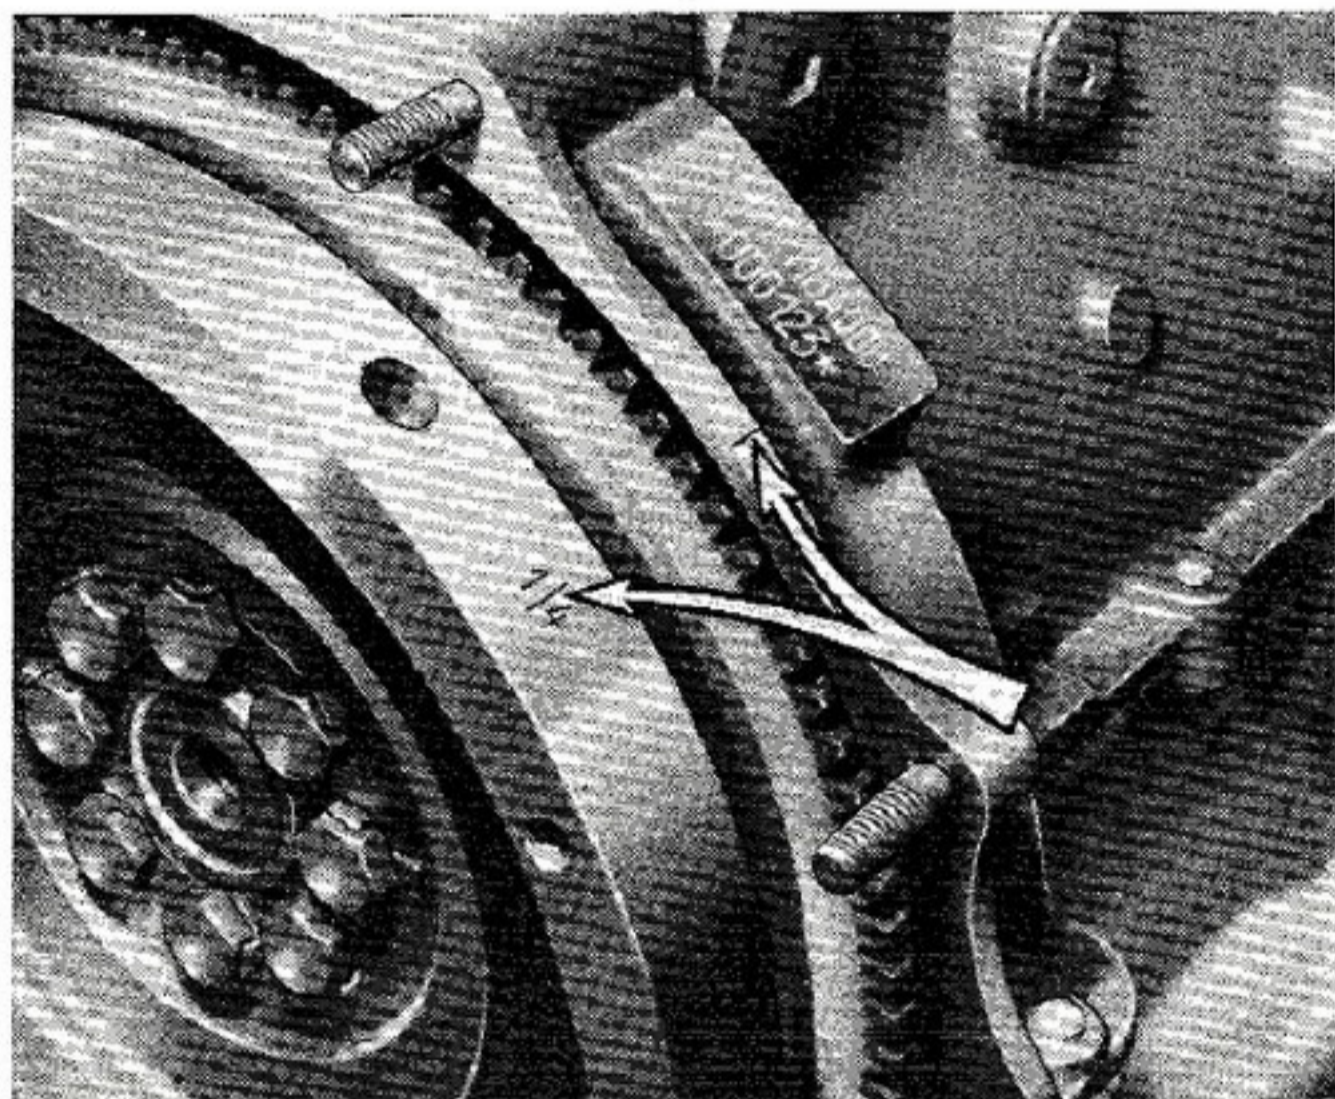
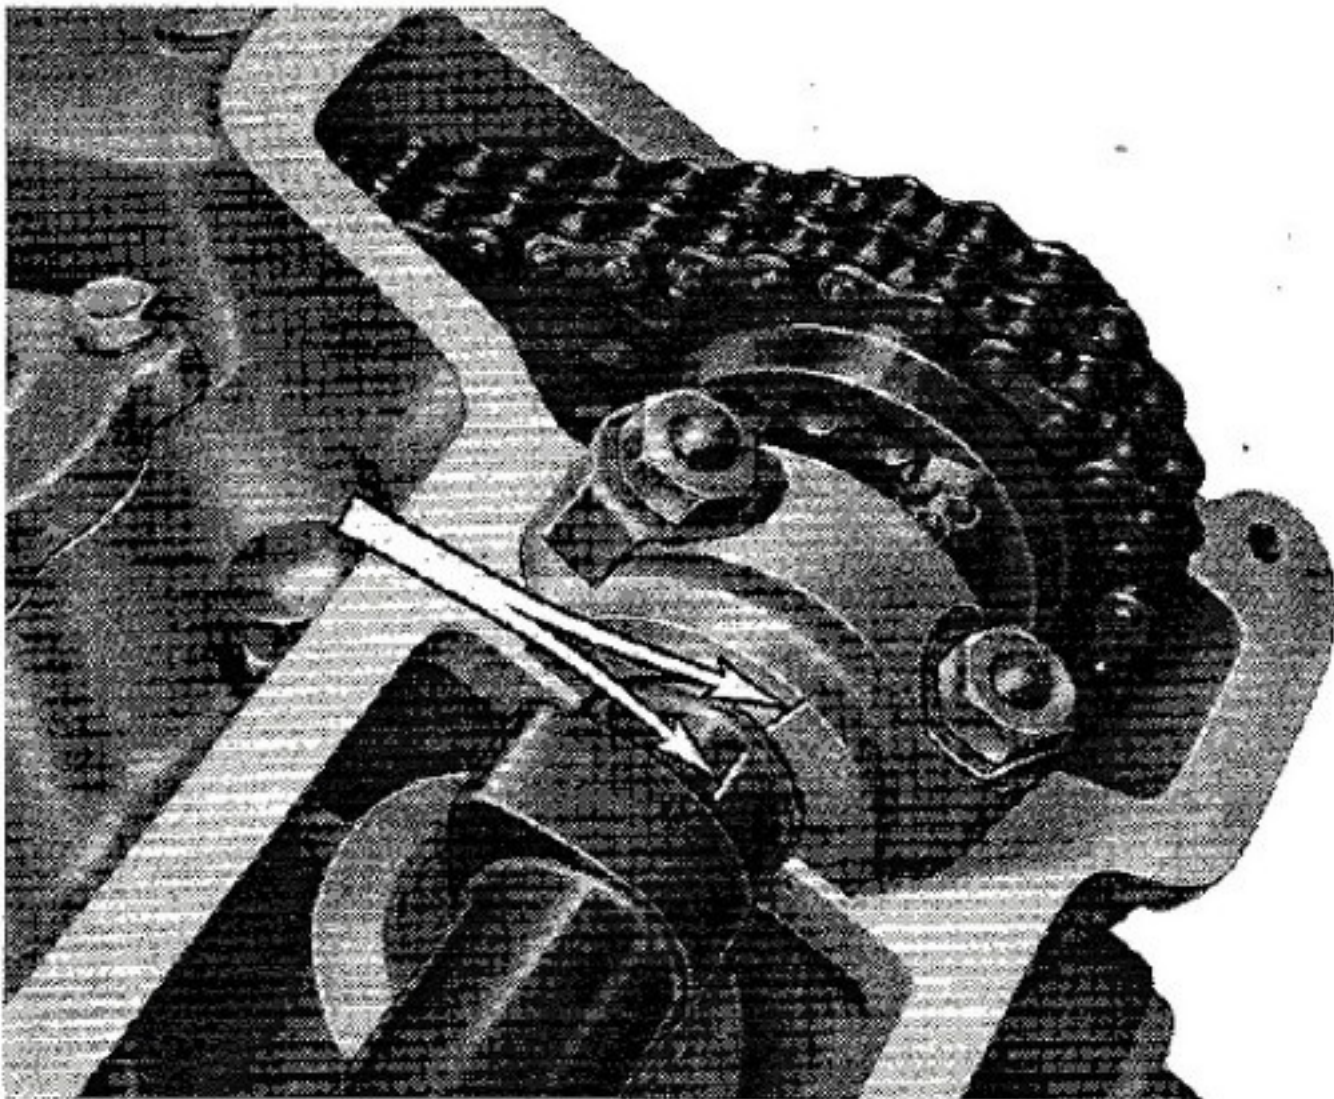

Fig. 36. - Reference marks on flywheel and crankcase for valve gear and ignition timing.
Fig. 40. - Timing reference marks on camshaft and cap.
- Turn flywheel until its «1/4» reference mark lines up with the mark on crankcase (fig. 36) and the reference marks on camshafts line up with the marks on camshaft caps (fig. 40).
- Turn flywheel until its «1/4» reference mark lines up with the mark on crankcase (fig. 36) and see to it that the reference marks on camshafts line up with the marks on camshaft caps (fig. 40).